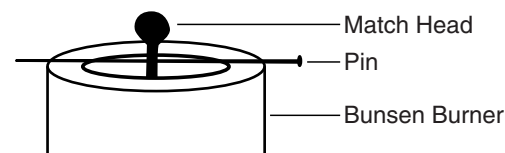

Figure 3.
4. Turn off the gas for this step. Place a pin through the stem of a match, slightly below the head of the match. Place the match assembly into the barrel of an unlit burner so that the match head barely shows above the barrel (see Figure 3). Turn on the gas and light the burner. If you're lucky, the match will not light. Turn the flame down until the match does light.